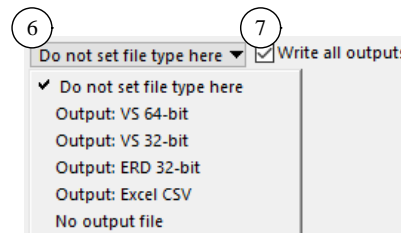

Figure 6. Drop-down menu of options for output file type.
- 6 Drop-down control to select format for the output file produced by the simulation. VS Math Models support four types of output files (Figure 6). The VS format supports both 32-bit and 64-bit data. The legacy ERD format is always 32-bit. The CSV format is pure text and can be read by Microsoft Excel and other spreadsheet programs.